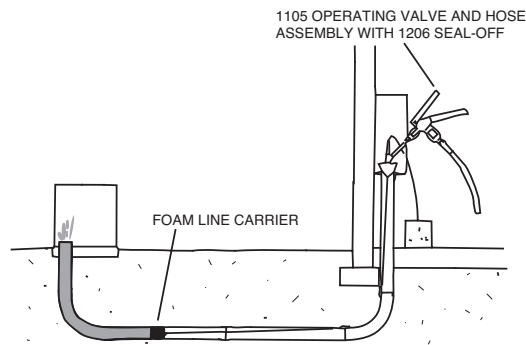

Figure 16
- Hold the seal-off hose frost guard, force seal-off firmly into the conduit entrance and squeeze the operating valve to start the flow of CO₂. Continue the flow of CO₂ until the line carrier comes out the other end of the conduit. This should take approximately 20 to 30 seconds in a clear 3" or 4" duct that is 300 ft. long. If the duct contains water as shown in Figure 16, the run time will be longer.